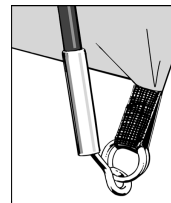

Fig 1.
- Loosen the tension adjusters at the base of the flysheet and insert the steel legs into the curved roof pole sections, and locate the ring and pin into the bottom of the steel legs. (See figure 1) Clip the flysheet to the steel poles on each side.
1. Locate one end of each pole onto the corresponding metal pin. The metal pin inserts into the hollow end of the steel pole. (See Figure 1).